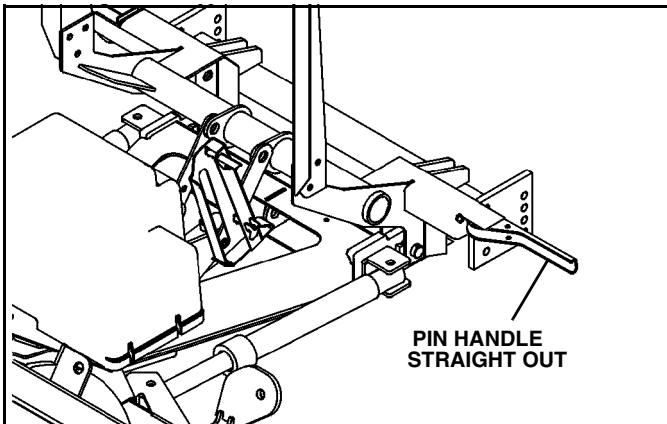

Figure 1-18
6. Push pin handles toward truck to unlock main pins. (See Figure 1-18).